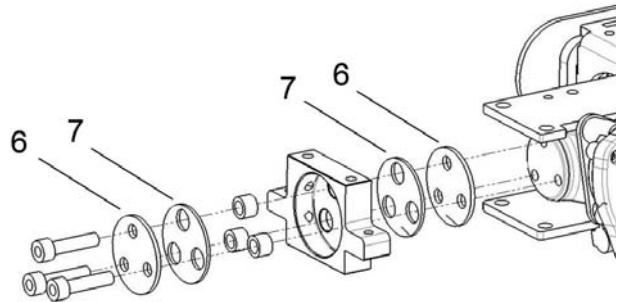

Fig. 27. Mount the actuator washers (6) and dampfer (7).
15. Mount the actuator washers (6) and dampfer (7). See fig. 27.